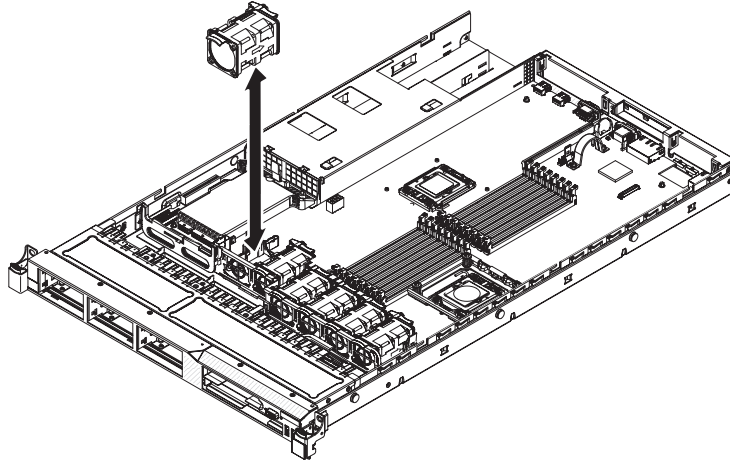

Figure 239. Removing or replacing a fan in the SAN Volume Controller 2145-CF8 node
4. Orient the new fan over the appropriate fan slot in the fan-assembly bracket so that the fan connector aligns with the connector on the system board. This alignment assures that the air-flow indicator arrow on the side of the fan is pointing to the rear of the node. Figure 239 on page 253 shows a fan being replaced.